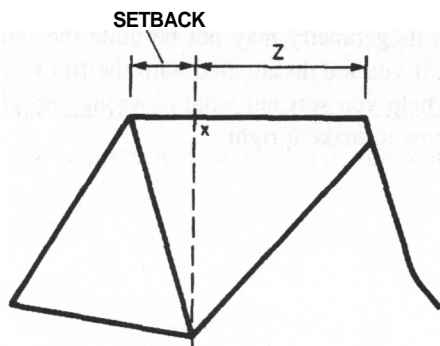

FIGURE 1
But the length of the top tube has less to do with reach than you think: If you divide the top tube into two portions and look at them separately, as we have done in Figure 1, you'll see why. Call the point **on** the top tube directly above the center of the bottom bracket **X** (find this point by leveling the bike and dropping a plumb bob through the centerline of the bottom bracket). The distance from the center of the seat lug to **X** is called 'setback.' Some framebuilders, especially European builders, work with setback rather than seat tube angle to fix the rider's position over the pedals. The portion of the top tube forward of **X** to the center of the head lug is what I call **Z**.
The importance of the location of those contact points becomes clear if you think of them **as** points forming the corners of a triangle. As you can see in Figures 1 and 2 (turn the page later), the position triangle encloses the actual frame tubes, **so** that the forward-most point of the top tube, for example, becomes almost inconsequential to fitting. After all, you don't grab the bike by the end of the top tube. Its only significance is that of a launching point for the stem, which itself is a launching point for the handlebar.
**Fig. 1.** This is a sketch of a modern road bike, with small frame, high saddle, low bars, and resulting steeply sloped triangle. Drawn from an actual catalogue photo, *so* the proportions are accurate. Notice how your weight will fall onto your hands and **arms**. It forces you into a low-back position, and the only way around it is to lock your **arms** out straight. The drops are way too far below the saddle, and rather than offering another useful riding position, when they're that low, all they're good for is a hand-perch for when you need to get the brakes. Stems which allow little **or** no vertical adjustment exacerbate the problem. This **is** what's wrong with the modern road bike.